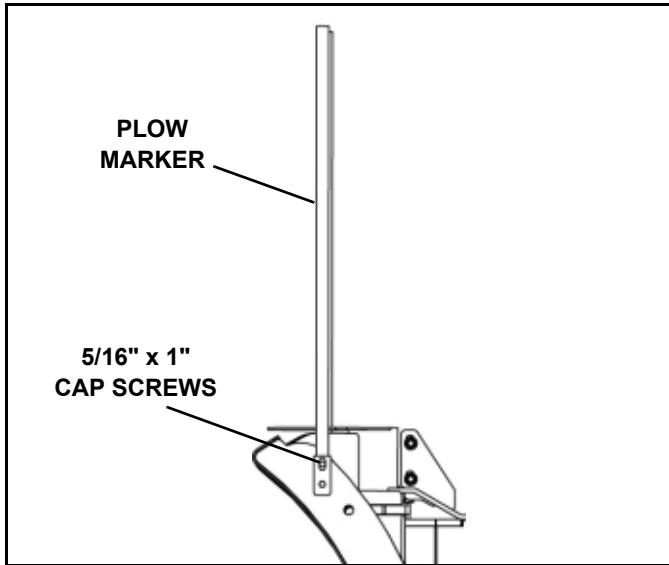

Figure 1-8
13. Attach a plow marker to each wing as shown and secure using 5/16" x 1" cap screws and locknuts (See Figure 1-8).